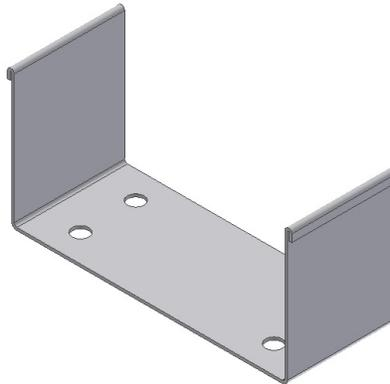

Figure 15-112 Model after creating hems
4. Now, select the outer edge of the left flange; the preview of the hem is displayed. Choose the **OK** button to create the hem and exit the dialog box. The sheet metal component after creating hems is shown in Figure 15-112.